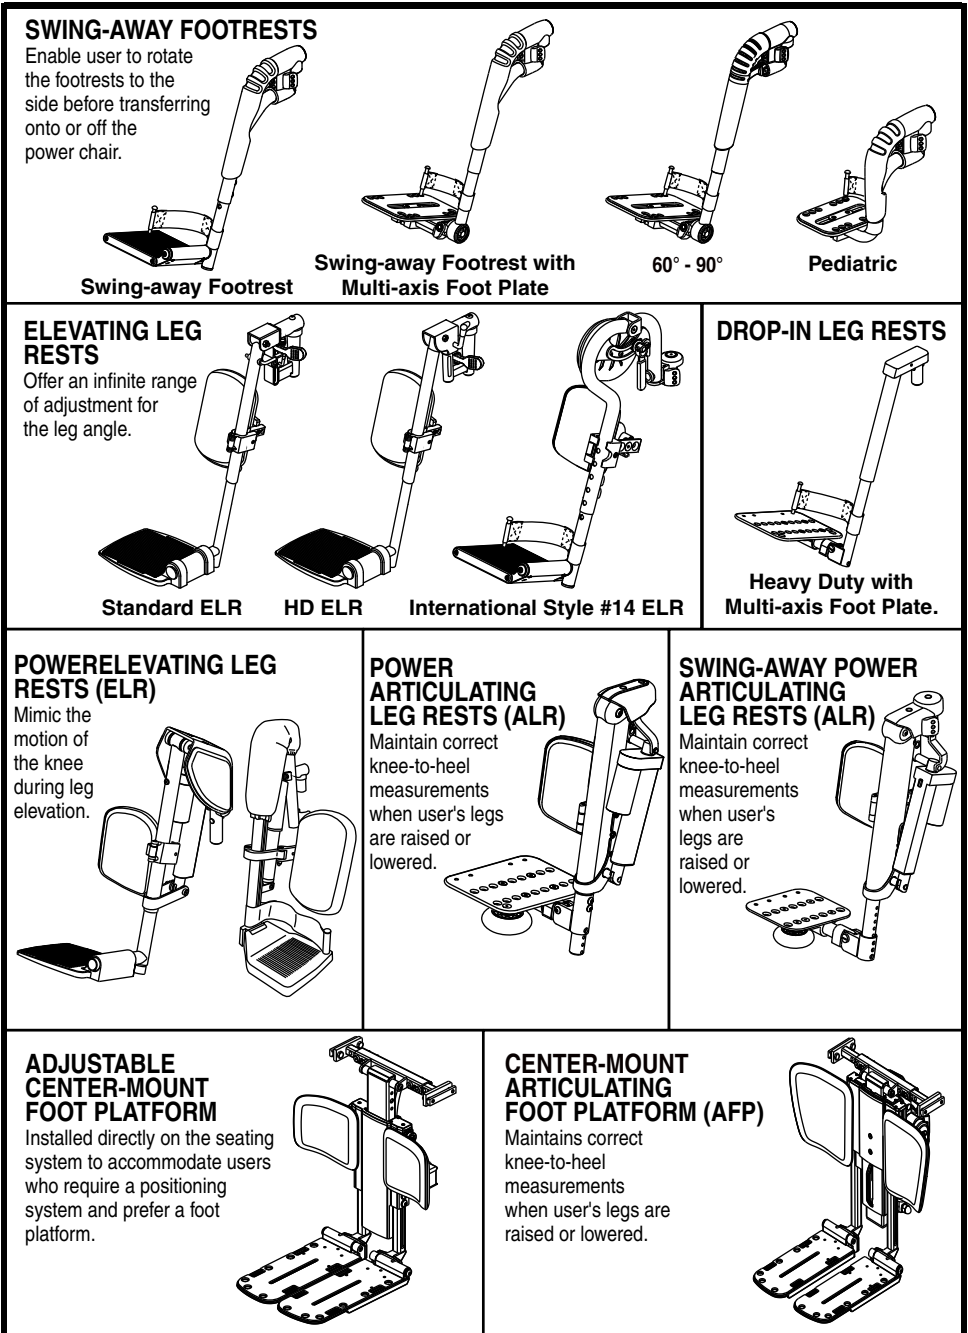

Figure 1. Front Riggings
**Figure 1** provides information on available front riggings' components. Use this diagram to familiarize yourself with the function of each component before using the front riggings.